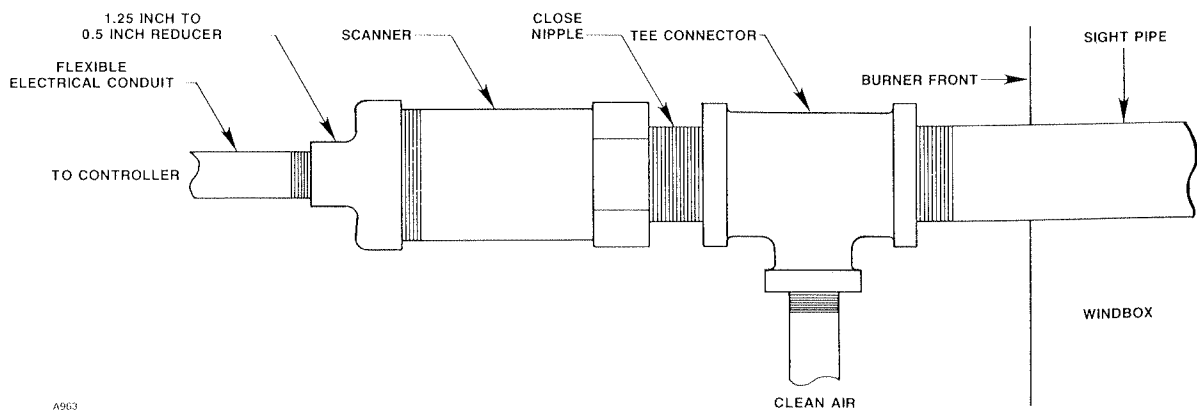

Figure 5—Scanner Mounting
3. Place a reducer tee fitting and close nipple at the end of the sight pipe (refer to Figure 5). Attach the purge air source to the tee. The purge air supply must be oil-free and dry. The air pressure should be slightly greater than furnace pressure to keep debris out of the sight pipe and away from the sensor tube surface. Special precautions should be taken in pressurized furnace applications. Consult the factory for further assistance.